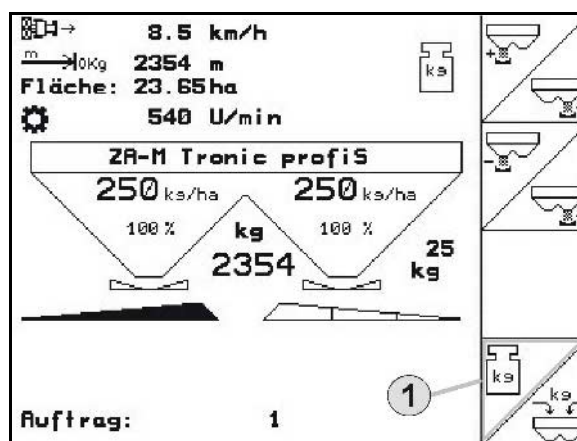

Fig. 63
- 2.1 Unscrew the thumb bolt (Fig. 63/1) securing the spreader disc and remove the spreader disc from the gearbox shaft.
3. Hook the collection bucket (Fig. 63/2) using the brackets (Fig. 63/3) into the supports (Fig. 63/4 and Fig. 63/5) on the frame.